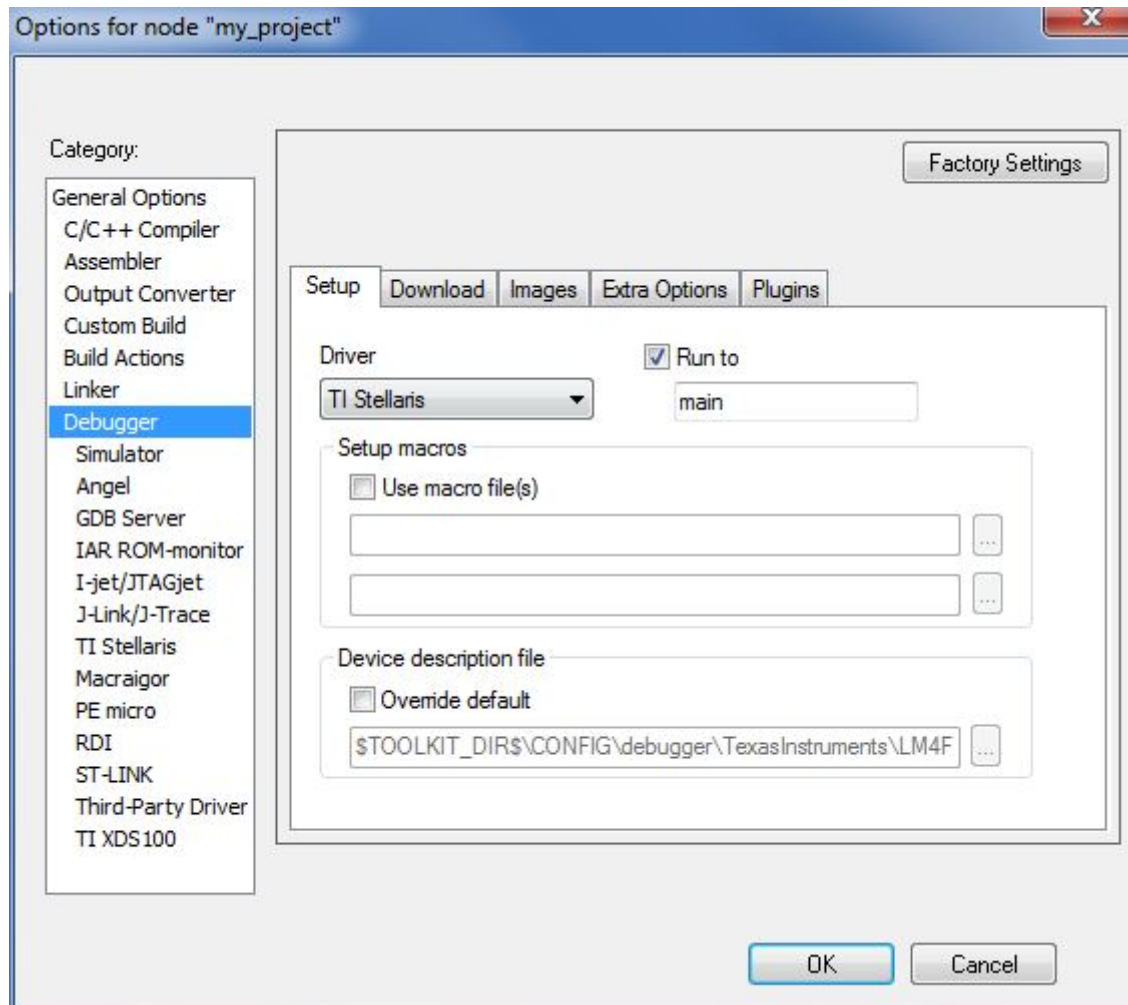

Figure 12.
1. In the project options, select the Debugger item and choose the TI Stellaris option from the driver drop-down menu (see Figure 12).